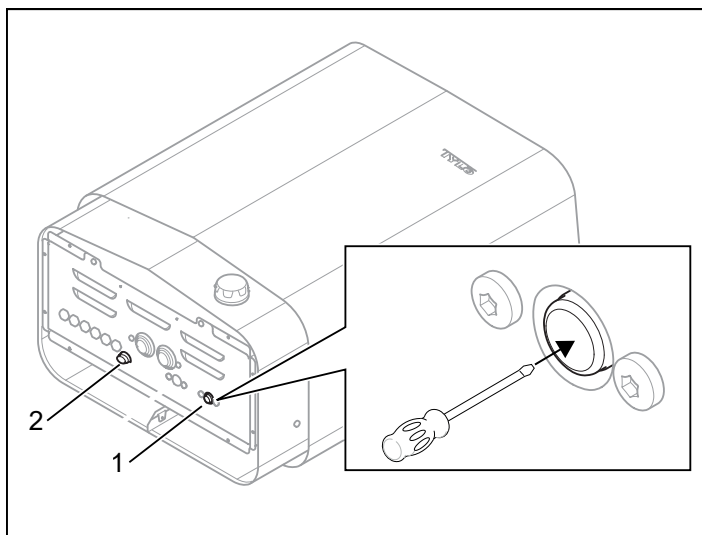

Figure 6: Resetting the temperature cut-out
- **Heater** - The temperature cut-out in the heater is there to protect the components, pipe elements and woodwork in the sauna from overheating. There is a red reset button under the heater which must be pressed in (see Fig. 6). If the cut-out has activated, the button will feel stiff and will 'click' when reset. If the cut-out has not activated and after resetting, the button will feel springy.